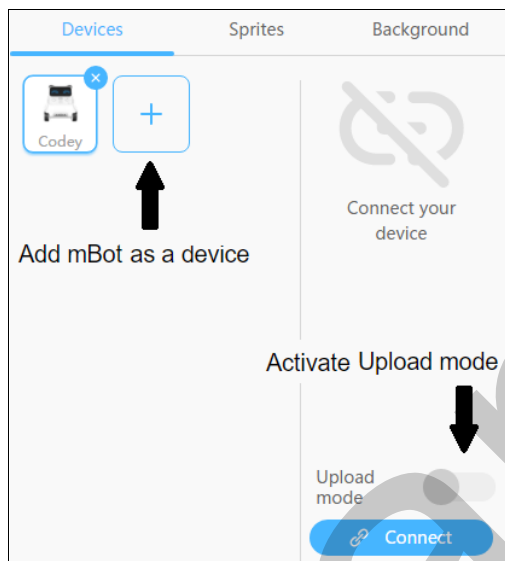

FIGURE 2 Add mBot and activate Upload mode
3. To be able to upload code to mBot, activate Upload mode by clicking the Upload mode toggle switch (see Figure 2).